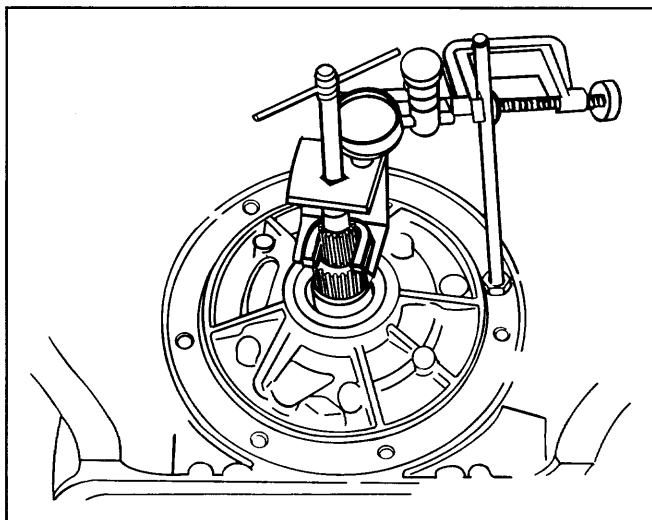

Figure 15. Transmission End Play Tool
3. Attach a dial indicator and zero it with the button on the fixture (Figure 15).